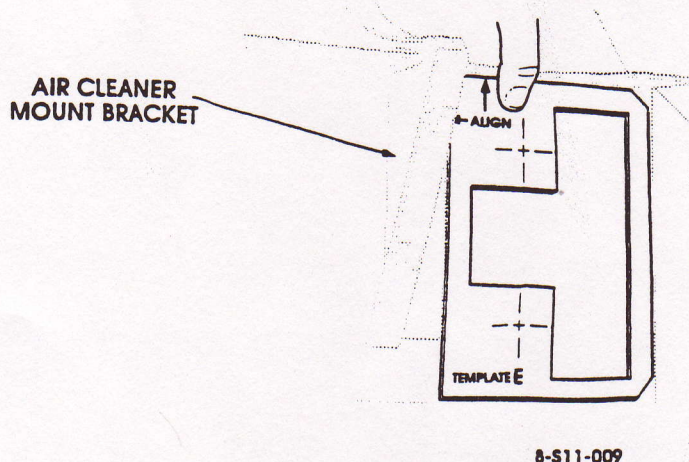

Figure 8: Manifold Flange Template "E".
31. Position the manifold flange template "E" alongside the inner air cleaner mount bracket and up against the body seam flange. Mark the cutout area and centerpunch the two center points of the 7/8" mount holes (See Figure 8).